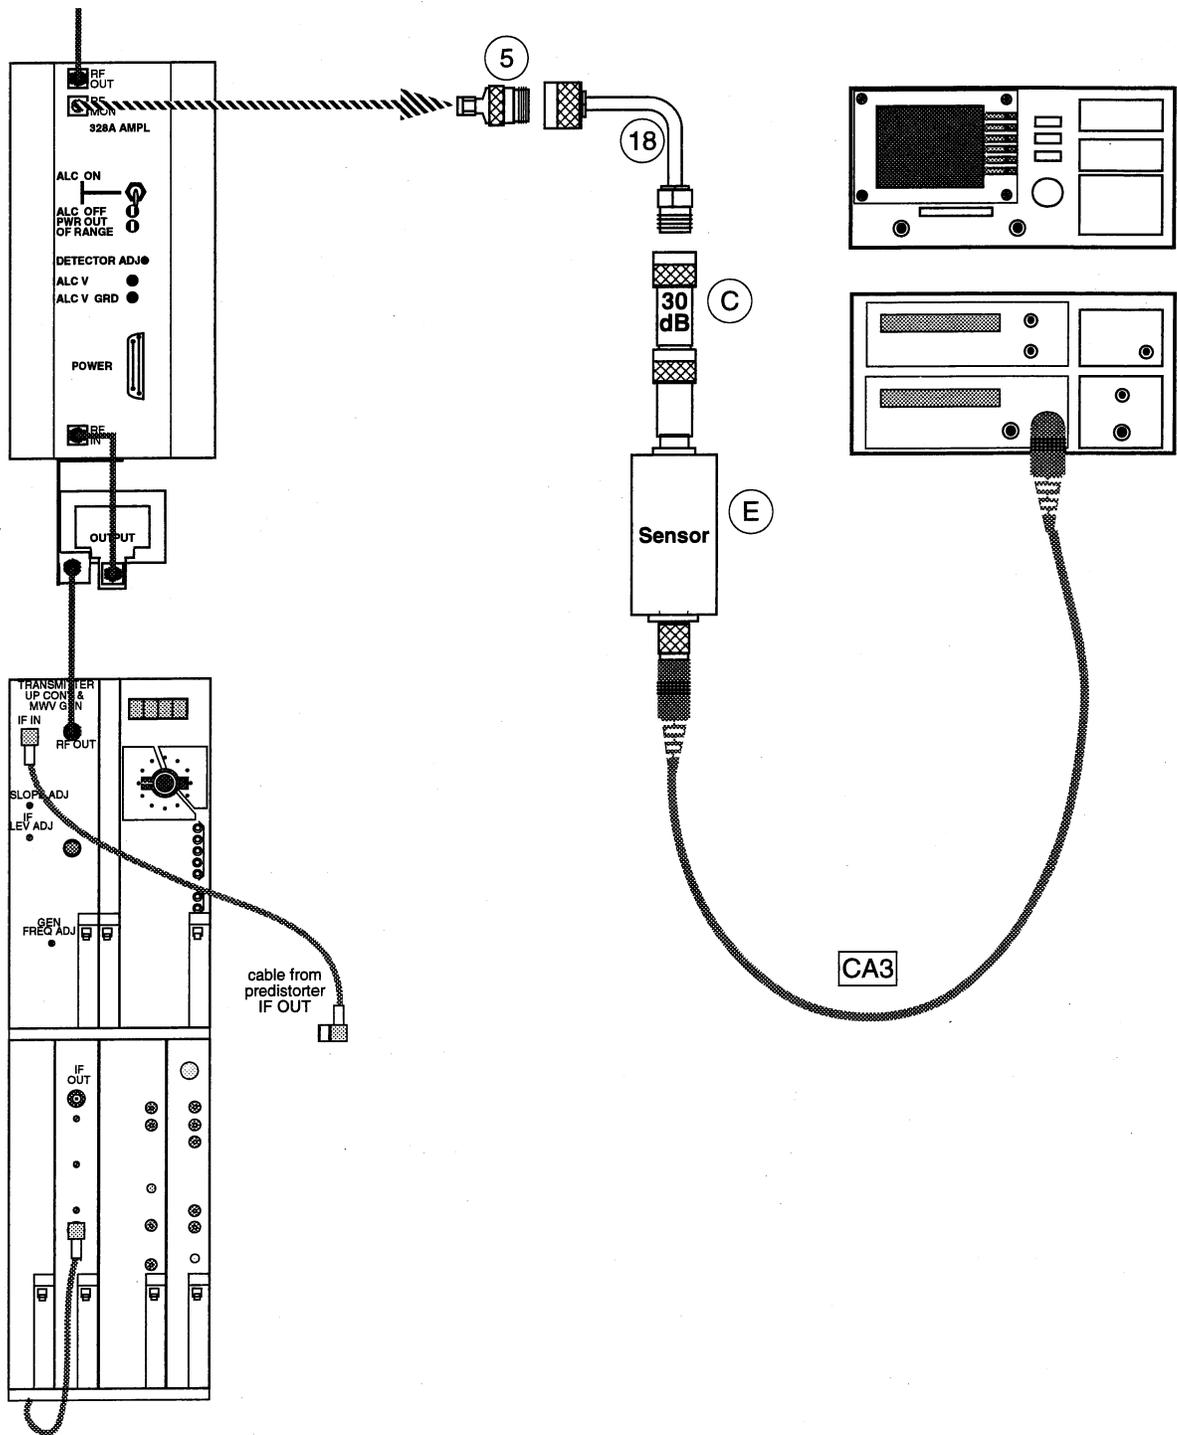

Figure 19. RF MON Power Measurement
- 35 Disconnect the 20 dB attenuator (item F) from the right angle adapter (item 18) and connect the test equipment as shown in Figure 19.